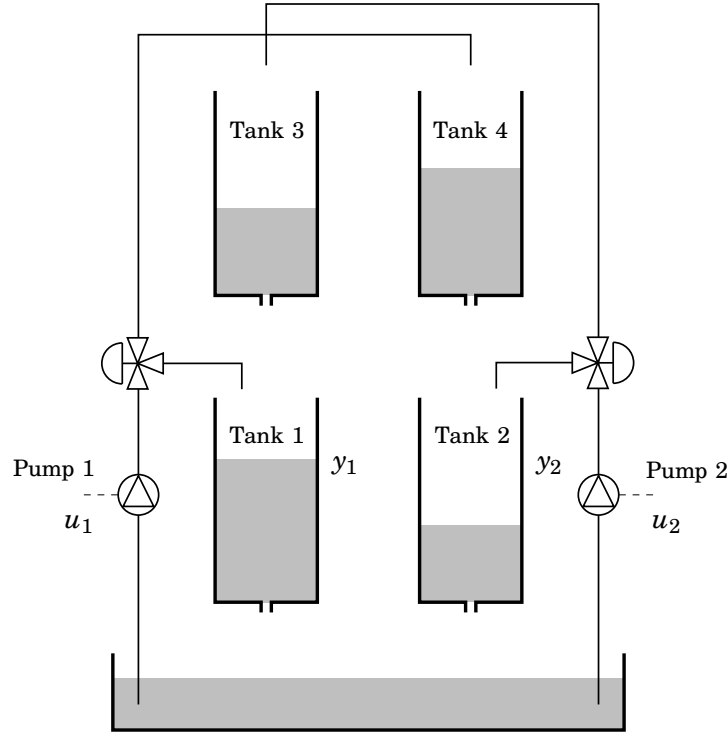

Figure 7.1 The quadruple-tank process.
- 7.3** Figure 7.1 shows the quadruple-tank process that will be used in Lab 2. The goal is to control the levels in the lower tanks (y_1, y_2) using the pumps (u_1, u_2). For each tank $i = 1 \dots 4$, mass balance and Torricelli's law give that